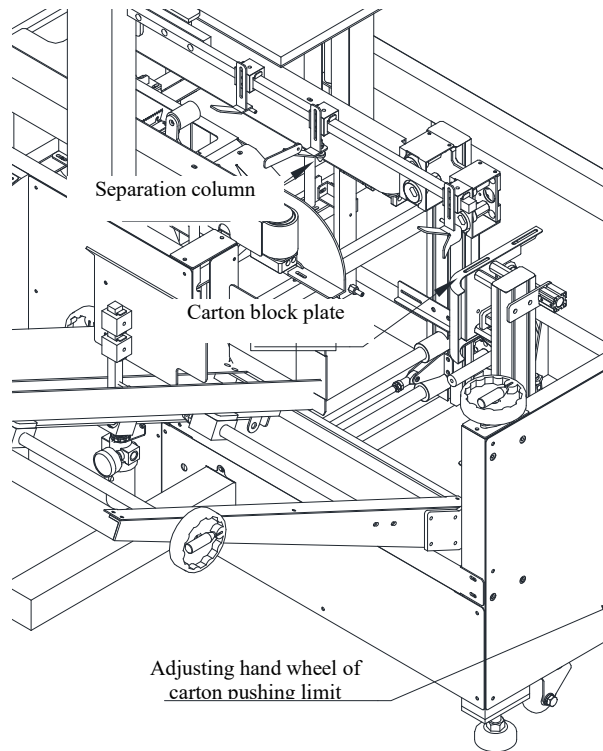

Figure 6
6) Rotate the carton push adjusting hand wheel to adjust to the carton block plate and the separation column adjusting block, with the folding line on the same straight line, as shown in Figure 6: